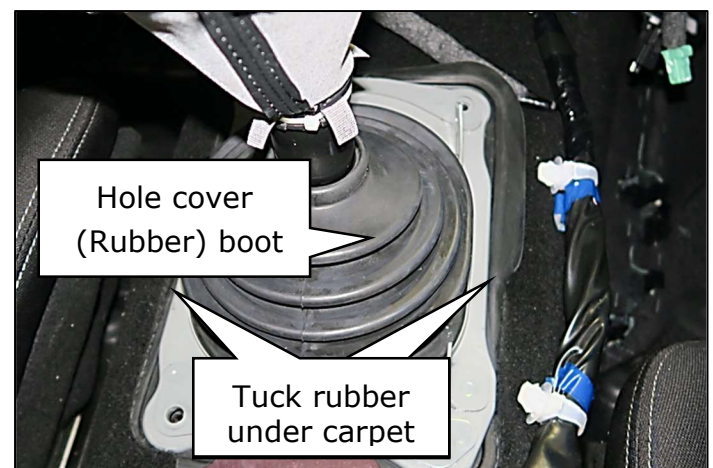

Figure 30
- Tuck the edges of the rubber boot under the carpet on the top and both sides (Figure 30)
- Install the (4) bolts and start by hand